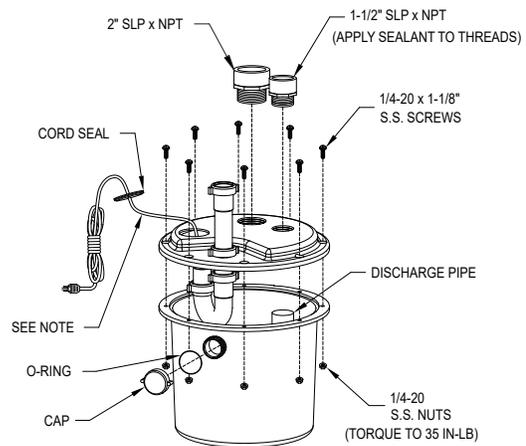

Figure 5.2
5.2) Install the lid components as shown in Figure 5.2.